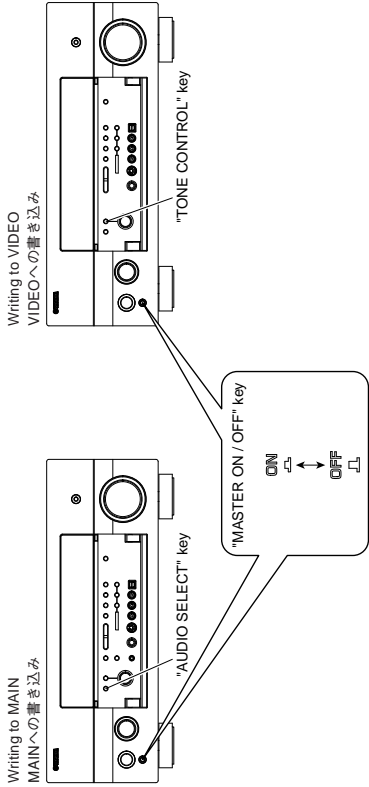

Fig. 8
5. Press the "MASTER ON/OFF" key of the main unit to turn it on. (Fig. 8)
6. For writing to MAIN, while pressing the "AUDIO SELECT" key of the main unit, connect the power cable of the main unit to the AC outlet. (Fig. 8)
- For writing to VIDEO, while pressing the "TONE CONTROL" key of the main unit, connect the power cable of the main unit to the AC outlet. (Fig. 8)